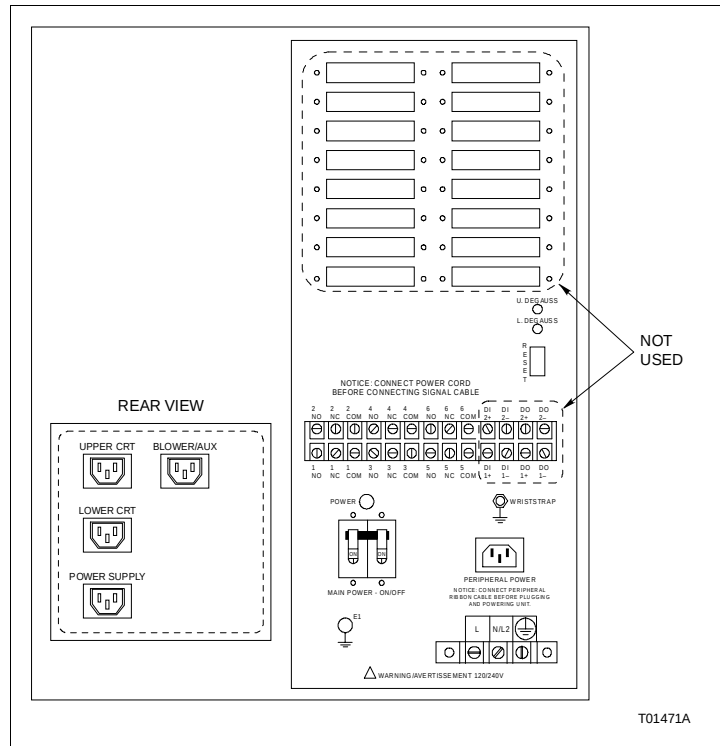

Figure PR26-1. Console Model PEP
- ☐ 3. Label and remove all cables from the front of the PEP (Fig. PR26-1).